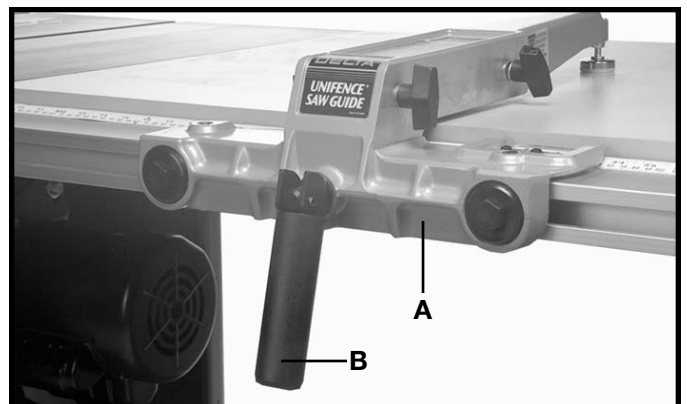

Fig. 65
4. Lock fence body (A) to the guide rail by pushing down on handle (B) as shown in Fig. 65.